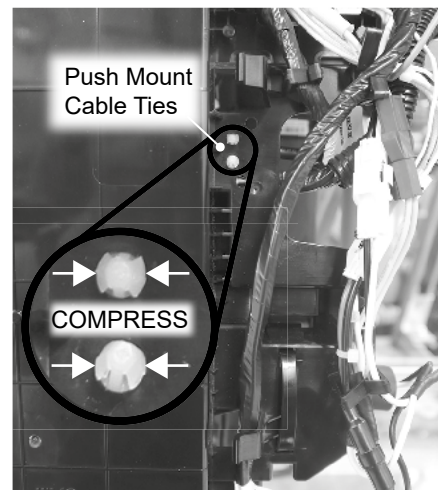

Figure 9 - Push mount cable tie removal.
10 Locate the push mount cable tie as shown in Figure 9. Use pliers to compress the wings and pull the user interface module wire to free it from the assembly.
- 24 Locate the two (2) push mount cable ties on the back of the control board. See Figure 9. Use a pair of pliers to compress tabs and push them out of the keeper holes.
- 25 Disconnect the push mount cable tie as shown in Figure 9.